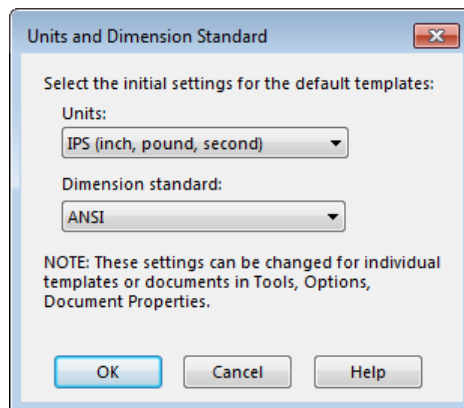

Figure 1-4 The **Units and Dimension Standard** dialog box
*If you are starting SOLIDWORKS 2016 for the first time, then on invoking the **New SOLIDWORKS Document** dialog box, the **Units and Dimension Standard** dialog box will be displayed, as shown in Figure 1-4. Using this dialog box, you can specify the default units and dimension standards for SOLIDWORKS. In this book, the unit system used is MMGS (millimeter, gram, second) and the dimension standard used is ISO.*